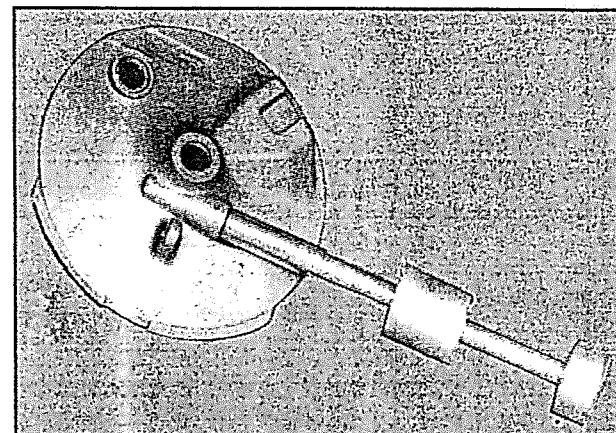

Fig 6.12
- Pull out the bush using the special tool (fig 6.12)